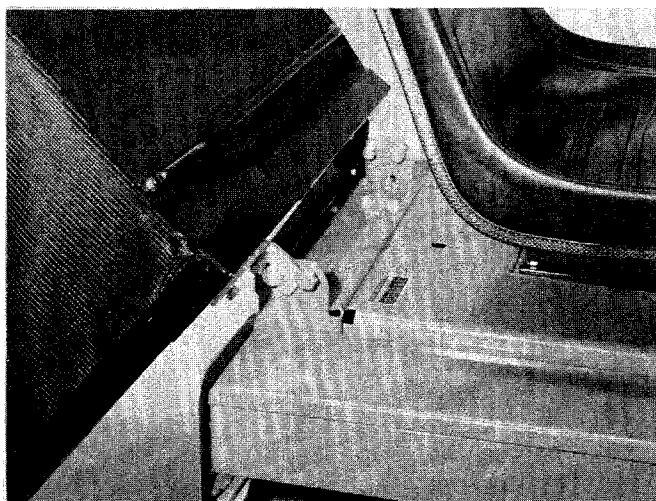

FIGURE 19.
8. Assemble the grass catcher to riding mower. See figure 19.